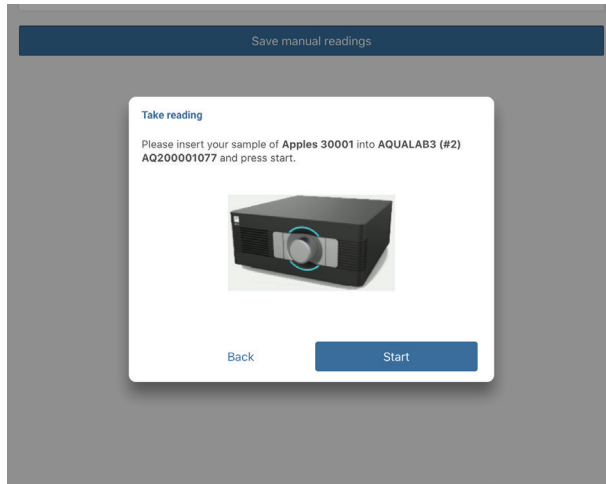

Figure 55 Take Reading popup
- b. Select the **Start** button on the Take Reading dialog box to start the reading if the sample is already loaded and the drawer knob is turned to the left (Figure 55).